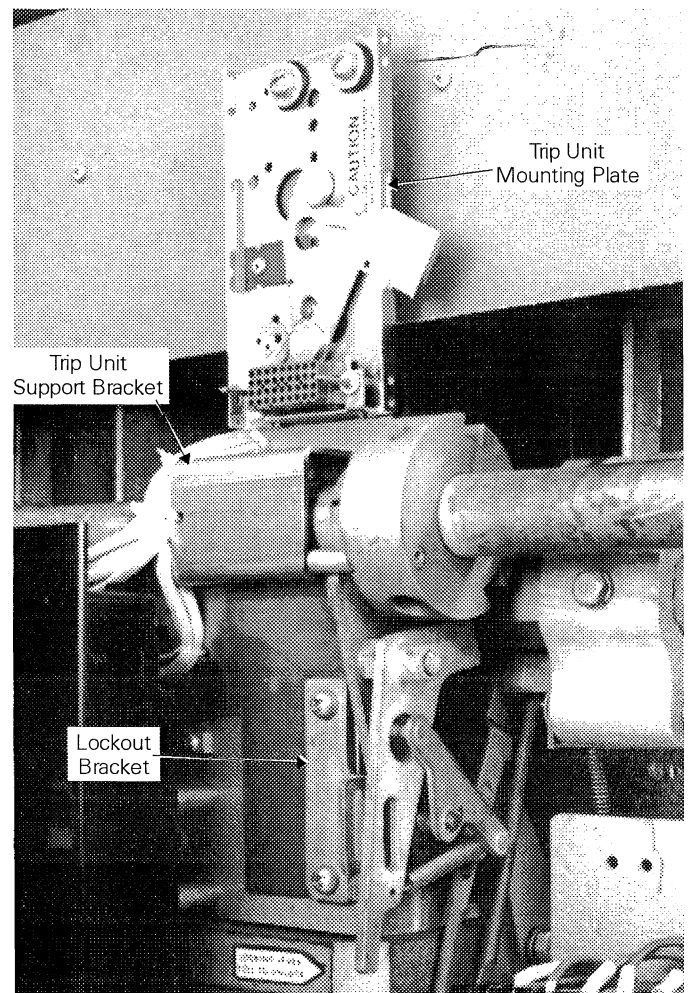

Figure 15. Trip unit mounting plate attached to the breaker.
3. Place the trip unit mounting plate and support bracket in position on the front of the breaker, lining up the two holes in the support bracket with the two mounting holes for the lockout bracket removed in step 2. Replace the lockout bracket with its two screws and lock washers over the trip unit bracket to secure the trip unit mounting plate, as shown in Figure 15.
1. Pull out the locking lever on the trip unit mounting plate until it snaps into the open position, as shown in Figure 15.